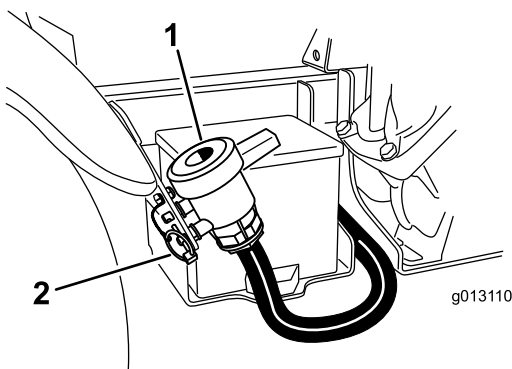

Figure 25
2. Locate the tank drain valve on the right side of the machine (Figure 25). The valve is on the fender bracket next to the battery.